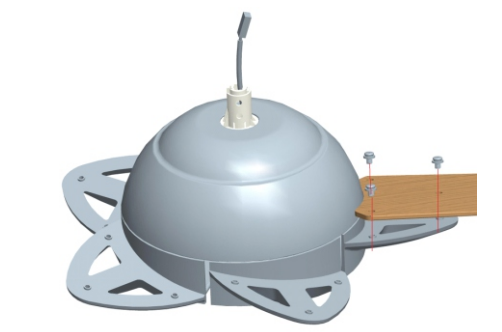
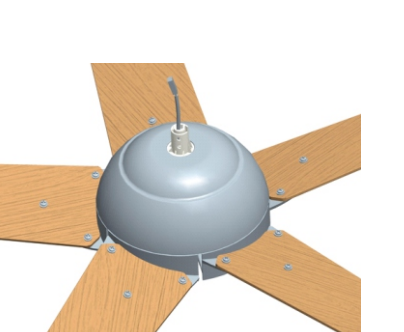

Fig 2.1
Fig 2.2
- 2.2 Make sure each airfoil matches the corresponding place with the airfoil support and tighten the M5x10 screws. (See Fig 2.1); Five airfoils installed. (See Fig 2.2)